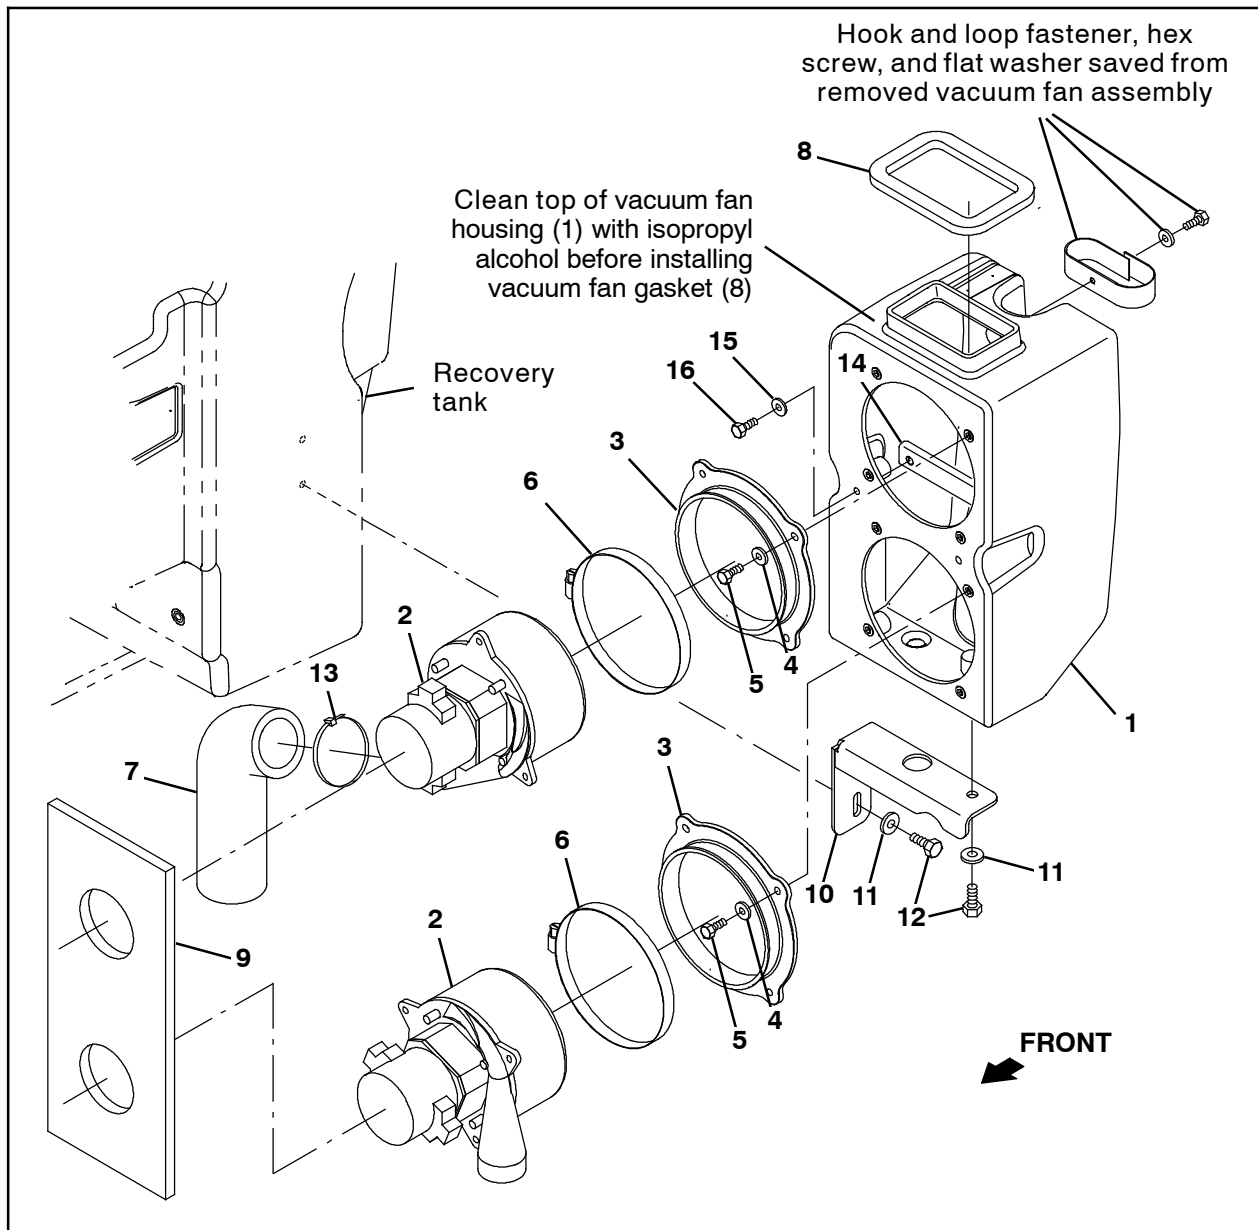

FIG. 2
1. Remove the hardware securing the vacuum fan assembly to the machine and carefully remove the vacuum fan assembly from the machine. (Fig. 2)
2. Disconnect the main wire harness connection(s) from the vacuum fan assembly. (Fig. 2)
3. **Machines without optional vacuum wand only:** Remove the hook and loop fastener from the removed vacuum fan. Set the hook and loop fastener, hex screw, and flat washer aside. Discard the removed vacuum fan assembly. (Fig. 2)
4. Use two M6 hex screws (16) and two sealing washers (15) to install the stiffener bracket (14) onto the vacuum fan housing (1). (Fig. 2)
5. Apply a light bead of RTV silicone adhesive sealant onto both vacuum fan mounting seals (3). (Fig. 2)
6. Use four hex screws (5) and four flat washers (4) to install each vacuum fan mounting seal (3) onto the vacuum fan housing (1). (Fig. 2)
7. Use a hose clamp (6) to install each vacuum fan (2) onto the vacuum fan mounting seals (3) / vacuum fan housing (1). (Fig. 2)
8. Use a cable tie (13) to install the vacuum fan muffler (7) onto the top vacuum fan (2). (Fig. 2)
9. **Machines without optional vacuum wand only:** Install the saved hook and loop fastener onto the vacuum fan housing (1). (Fig. 2)
13. Use isopropyl alcohol to clean the area on top of the vacuum fan housing (1) where the vacuum fan gasket (8) will be installed. (Fig. 2)
14. Install the vacuum fan gasket (8) onto the vacuum fan housing (1). (Fig. 2)
15. Use one M8 hex screw (12) and one flat washer (11) to install the fan bracket (10) onto the vacuum fan housing (1). (Fig. 2)
17. Install the acoustic insulation (9) onto the vacuum fan assembly. (Fig. 2)
18. Use two M8 hex screws (12) and two flat washers (11) to install the vacuum fan assembly onto the recovery tank. (Fig. 2)